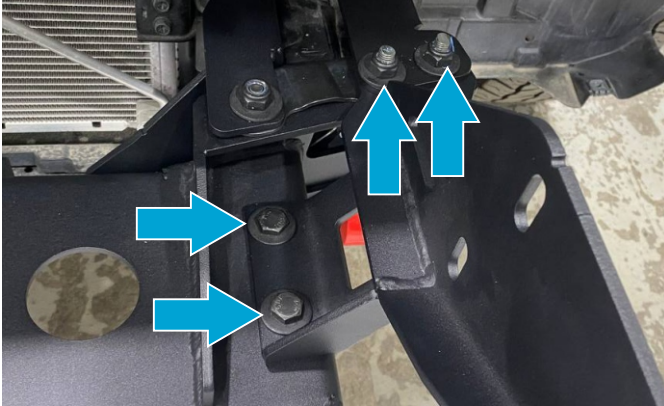

Fig.55
49. Tighten all hardware as shown in Fig. 55